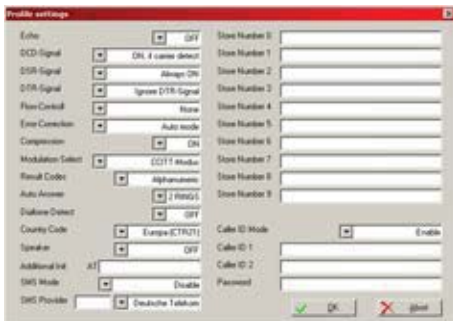

Fig. 204: Profile settings
4. ▶ Configure the settings shown in (Fig. 204) for the modem to accept an incoming call for remote configuration.